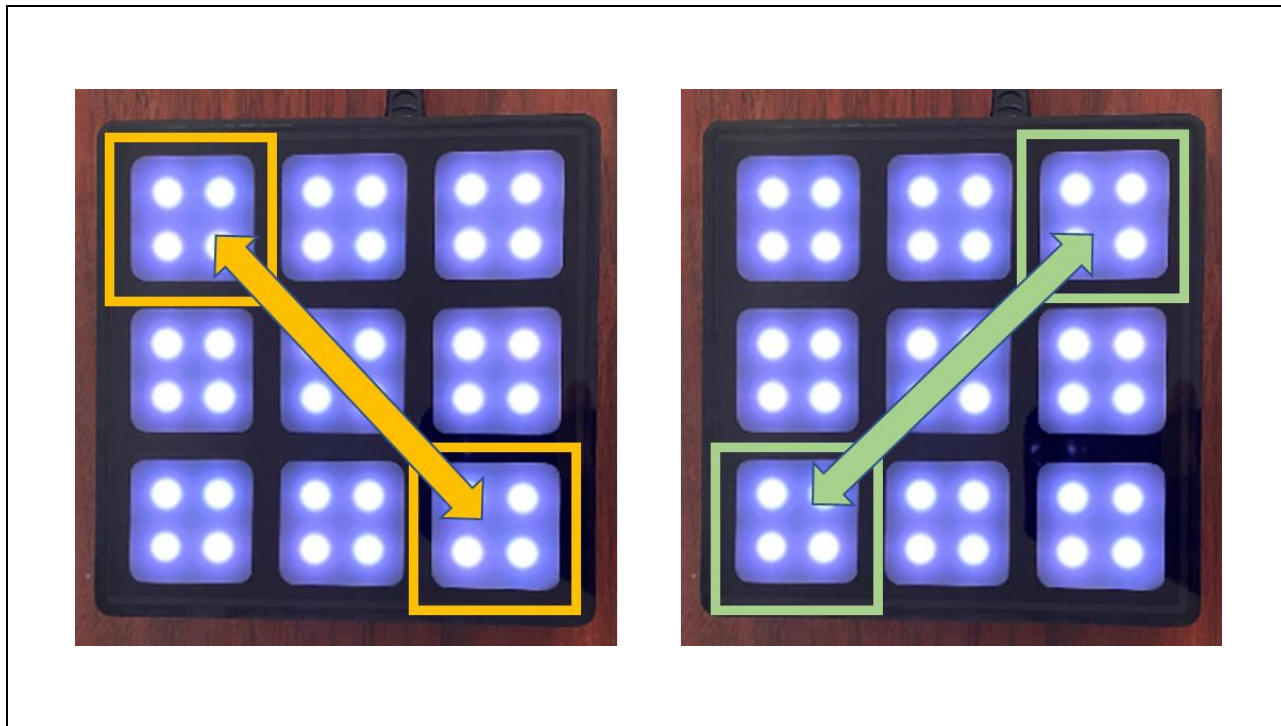

Figure 4.2 How to transition to low power consumption standby mode by operation
- The normal operation mode is shifted to the low-power-consumption standby mode after 15 seconds in the non-touch state or by recognizing two diagonal buttons simultaneously for 3 seconds as shown in Figure 4.2.